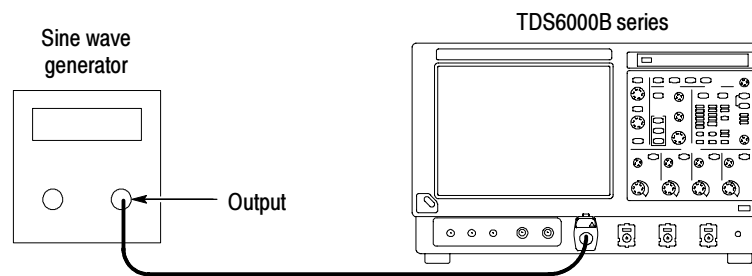

Figure 4-7: Initial test hookup
- c. *Hook up the test-signal source:* Connect the sine wave output of a leveled sine wave generator to **CH 1**. Set the output of the generator to a reference frequency of 50 MHz or less. See Figure 4-7.